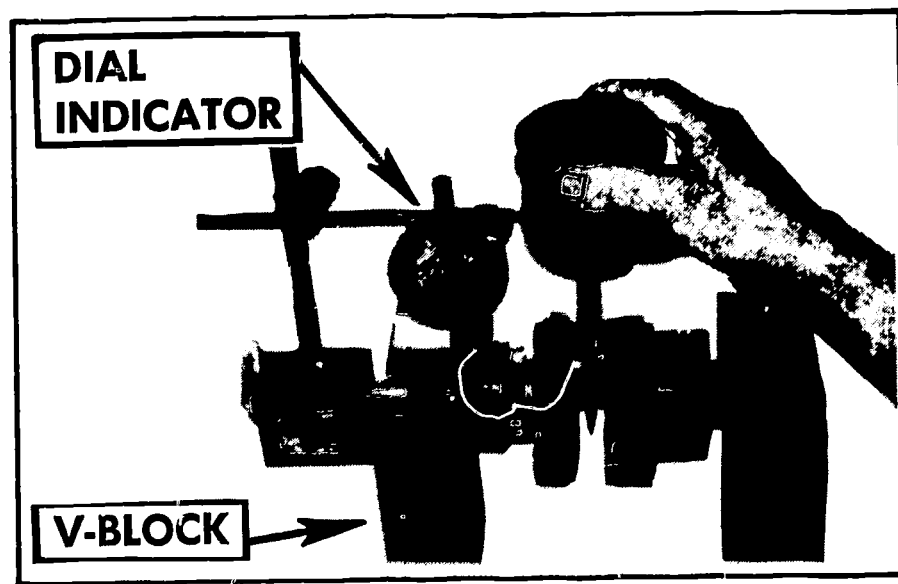

FIGURE 309. Checking the crankshaft for straightness with a dial indicator.
3. Check the crankshaft for straightness (Figure 309).